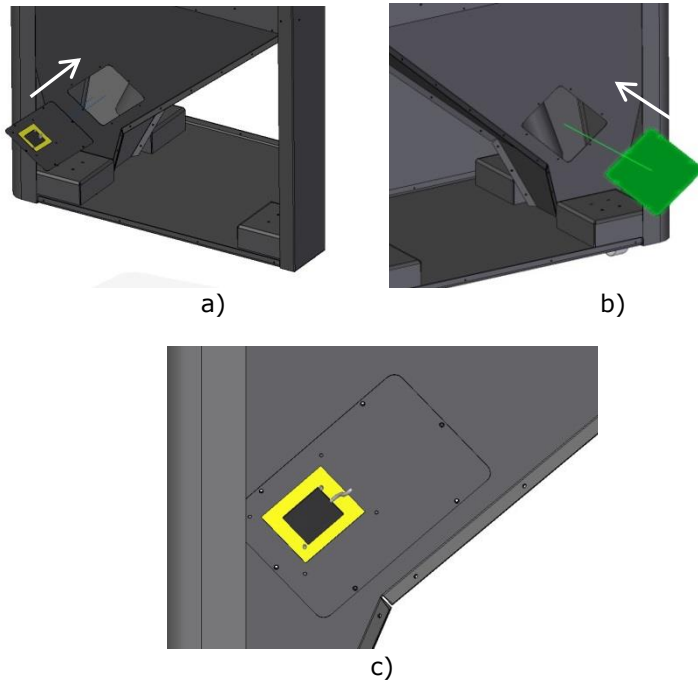

Figure 45 – Installing the pellet level sensor on the storage unit (storage unit on the left side of the boiler)
- Finally, you can mount the two mounting plates at the bottom of the storage unit, putting the plate with the level sensor on the right side and the plate without level sensor on the left side. The level sensor must be assembled as shown in Figure 45-c.